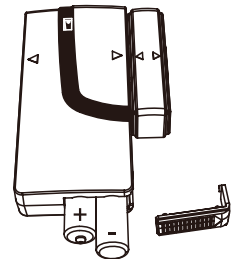

Fig. 1
- Remove the battery cover; insert new batteries, noting the polarity as shown in Fig.1, and replace cover. (Requires 2 x AAA batteries.)